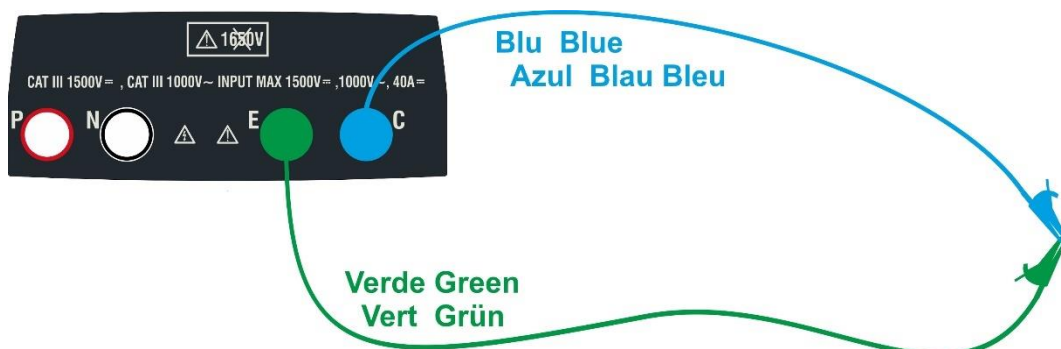

Fig. 5: Compensation of the measuring cables resistance
3. Connect the measuring cables to each other as shown in Fig. 5.